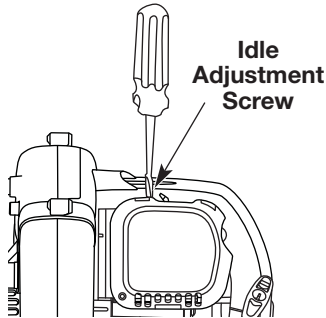

Fig. 26
The idle speed of the engine is adjustable. An idle adjustment screw is between the air filter cover and the engine starter housing (Fig. 26).
2. Release the throttle trigger and let the engine idle. If the engine stops, insert a small Phillips screwdriver in between the air filter cover and the engine cover (Fig. 26). Turn the idle speed screw in, clockwise, 1/8 of a turn at a time (as needed) until the engine idles smoothly.